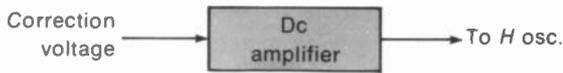

FIGURE 16-25 DC AMPLIFIER FOR AFC CORRECTION VOLTAGE.
**Dc control stage.** In some AFC circuits, the dc correction voltage is amplified and then connected to the horizontal oscillator (Fig. 16-25). Several uses for such a dc amplifier include: (1) amplify the dc correction voltage from the sync discriminator for better control of the horizontal oscillator; (2) dc control tube for a blocking oscillator; (3) reactance tube for a sine-wave oscillator, called *synchrolock* AFC.